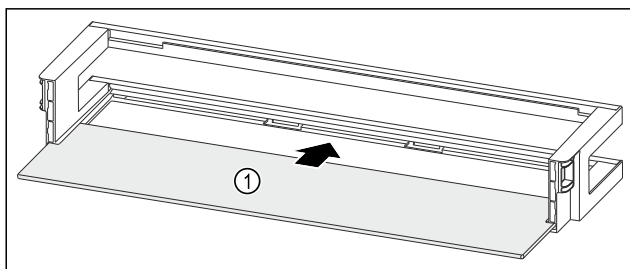

Fig. 174 Door rack with shelf
- Push the shelf *Fig. 174 (1)* into the side recesses.